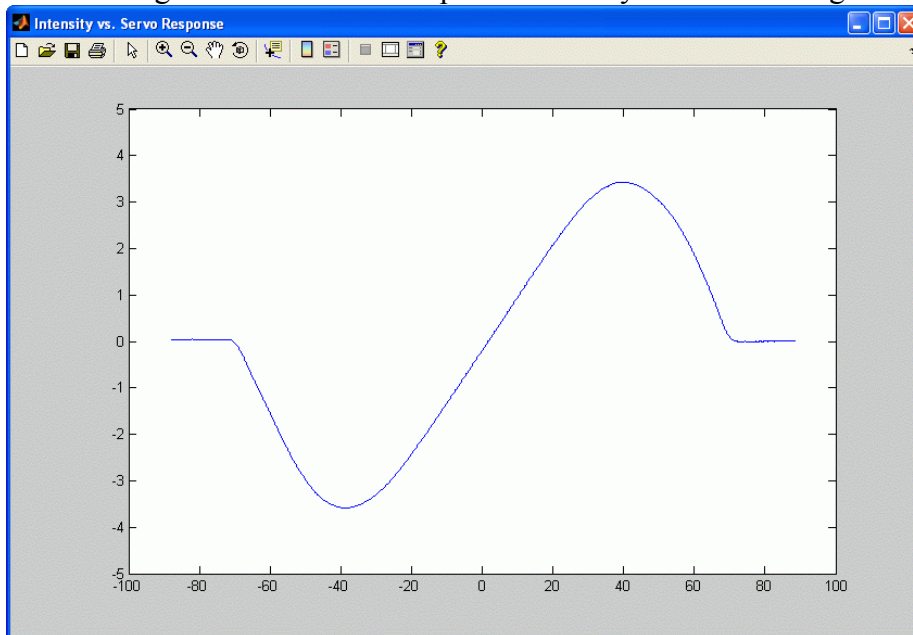

Figure 18: Differential intensity versus camera/servo angle response
8. The X-Y Figure should have a response similarly as shown in Figure 18.
As detailed in *plot\_response.m*, using the *ginput* command it was found that the min and max differential intensity is -4.0 V and 3.6 V, and the servo ranges from -42.6 to 38.5 degrees. The sensor gain for the response in Figure 18 is therefore